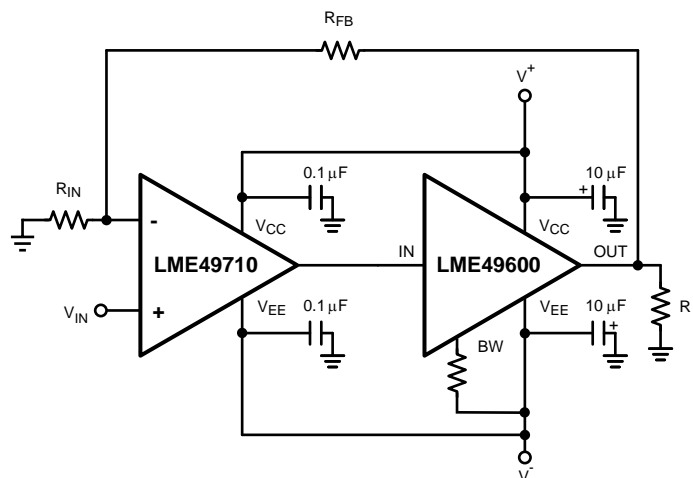

Figure 26. High Performance, High Fidelity LME49600 Audio Buffer Application
| THD+N             | Total Harmonic Distortion + Noise (3) | $A_V = 1$ , $V_{OUT} = 3V_{RMS}$ , $R_L = 32\Omega$ , BW = 80kHz,closed loop see Figure 26.$f = 1kHz$$f = 20kHz$ | 0.0000350.0005                                 |  | %%                              |